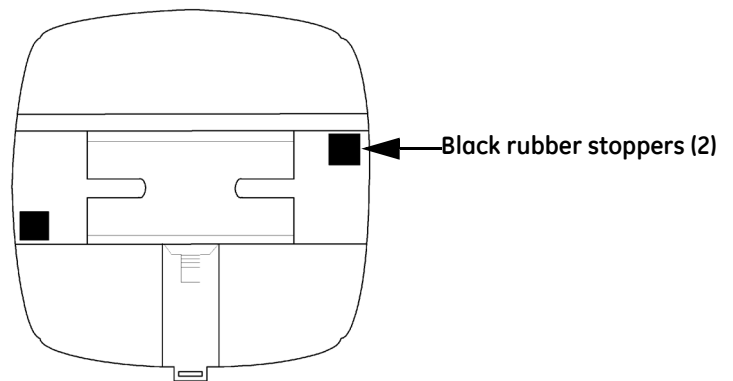

Figure 3-8: DIN rail detail
- If mounting with the DIN Rail provided, use the black rubber stoppers, also provided (see Figure 3.8).